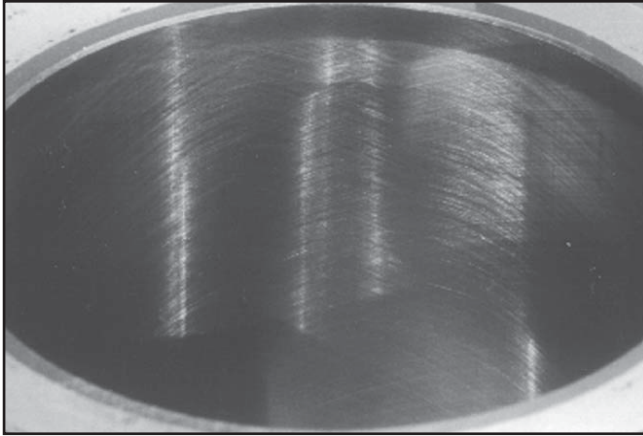

Figure 10-7. Cylinder Bore Crosshatch After Honing.
3. When the bore is within **0.064 mm (0.0025 in.)** of the desired size, remove the coarse stones and replace them with burnishing stones. Continue with the burnishing stones until the bore is within **0.013 mm (0.0005 in.)** of the desired size and then use finish stones (**220-280 grit**) and polish the bore to its final size. A crosshatch should be observed if honing is done correctly. The crosshatch should intersect at approximately 23°-33° off the horizontal. Too flat an angle could cause the rings to skip and wear excessively, and too steep an angle will result in high oil consumption. See Figure 10-7.